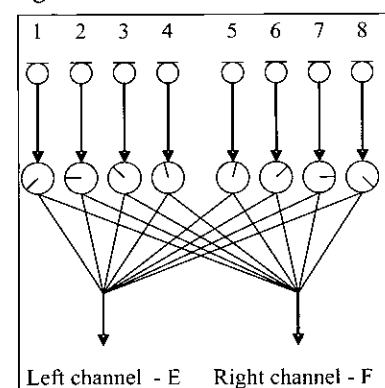

Figure 4: Panning of eight audience microphones to left and right channels
The signals from the eight suspended audience microphones are mixed in a rather complex way and routed to two separate tracks (E and F), in order to provide a stereo playback effect. The mixing technique involves routing all eight signals to both tracks, but panning the first four feeds incrementally from the centre-most (4) to the left-most (1) towards to left track, whilst panning feeds 5 to 8 to the right track on the same principle, as shown in Figure 4.